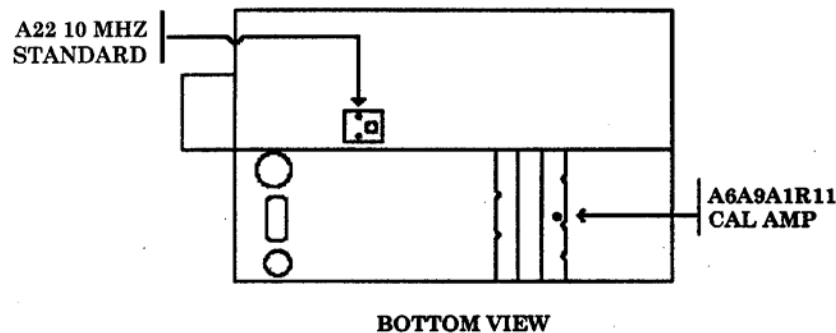

Figure 2. Calibrator amplitude adjustment.
- (1) Set **LINE** switch to **STANDBY**.
- (2) Position TI on its right side.
- (3) Remove TI bottom cover.
- (4) Set **LINE** switch to **ON**.
- (5) Adjust A6A9A1R11 CAL AMP. (fig. 2) for a measuring receiver indication of  $-10 \pm 0.01$  dBm (R).